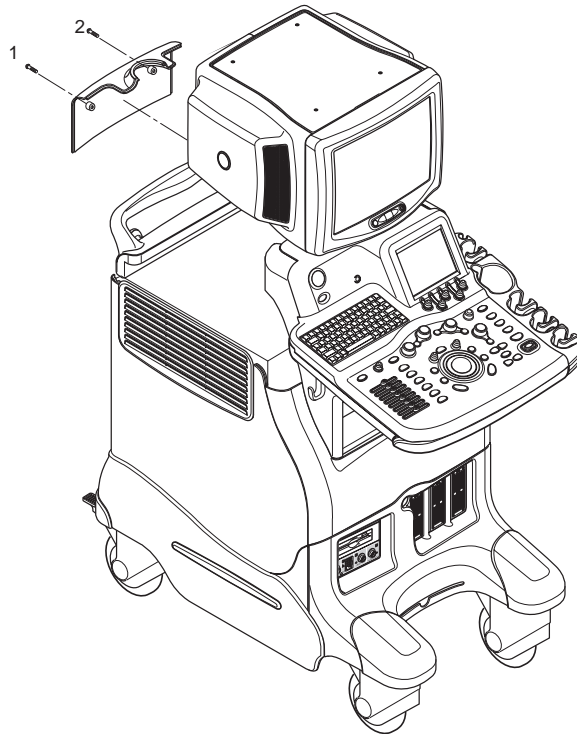

Figure 8-62 Removing OP Rear Cover
- 2.) Remove OP Rear Cover. Refer to Figure 8-62.